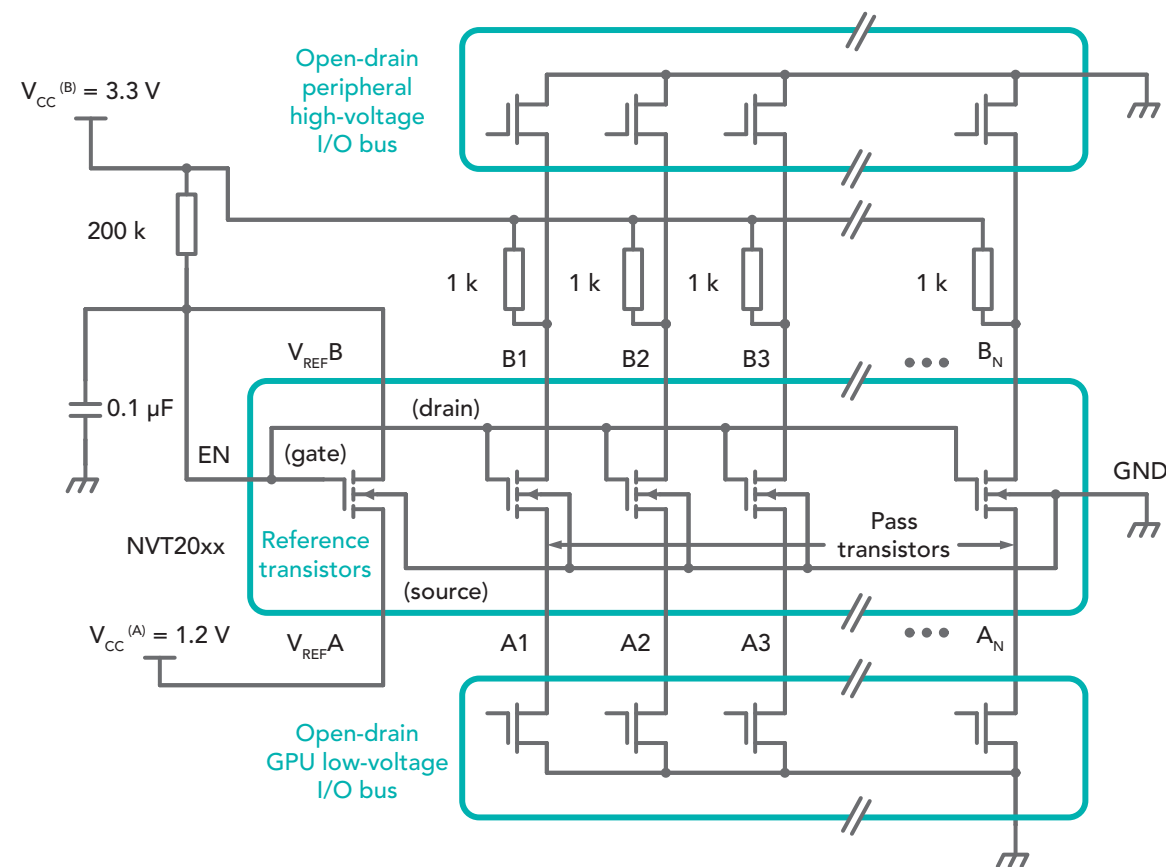

Figure 4-13. Typical NVT20xx device schematic
NVT level shifters perform bidirectional translation using an array of matching N-channel pass transistors with their gates tied together internally at the enable (EN) pin (Figure 4-13).